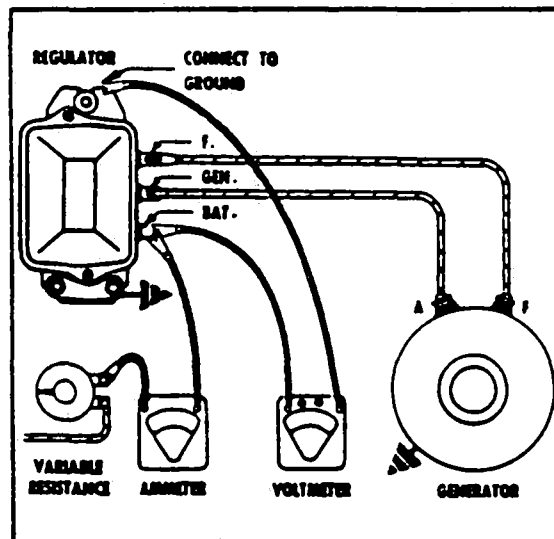

Figure 11-8. Checking Voltage Setting Variable Resistance Method
Method 2: Connect a variable resistance into the field circuit as in Figure 11-8. Turn out all resistance. Operate generator at specified speed. Slowly increase (turn in) resistance until generator voltage is reduced to 4 volts. Turn out all resistance again and note voltage setting (with voltmeter connected as in Figure 11-8). Regulator cover must be in place.
- (a) Connect ammeter and 1/4 ohm variable resistor in series with the battery as shown in Figure 11-8.
It is very important that the variable resistance be connected at the "BAT" terminal as shown in Figure 11-8 rather than at the "GEN" terminal even though these terminals are in the same circuit. An examination of the wiring diagram, Figure 11-3, will show that regulation begins at the point where the shunt windings are connected to the series circuit. Any small resistance added to the circuit between the generator and this point will simply be offset by a rise in generator voltage without affecting the output shown at the ammeter.